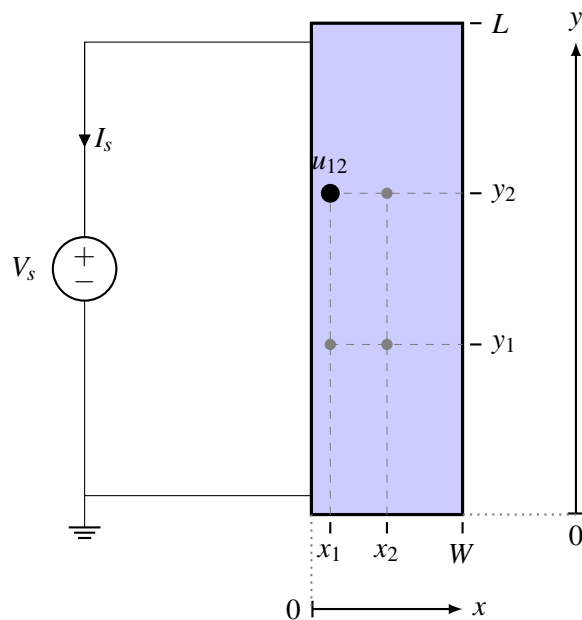

Figure 3: Top view of resistive touchscreen showing node u_{12} .
- Let us assume u_{12} is the node voltage at the node represented by coordinates (x_1, y_2) of the touchscreen, as shown in **Figure 3**. What is the value of u_{12} ? You should first draw a circuit diagram representing Figure 3, which includes node u_{12} . Specify all resistance values in the diagram. Does the value of u_{12} change based on the value of the x -coordinate x_1 ?